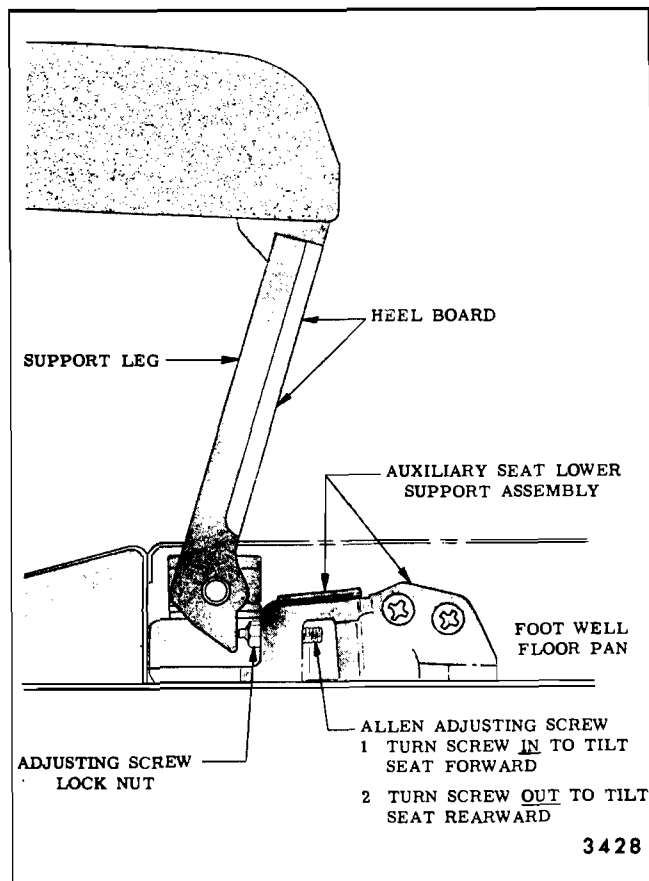

Fig. 15-63—Auxiliary Seat Adjustment - Cadillac Limousine Styles
2. On the front side of the auxiliary seat heel board, turn back foot well carpet flap to expose the auxiliary seat lower outboard and inboard support assemblies (See Fig. 15-63).
3. Loosen the allen adjusting screw lock nut at both inboard and outboard supports (See Fig. 15-63).
4. Carefully turn the adjusting screw (See Fig. 15-63) at both supports the same amount to allow the seat to pivot rearward further; thereby, providing additional leg room for the aux-